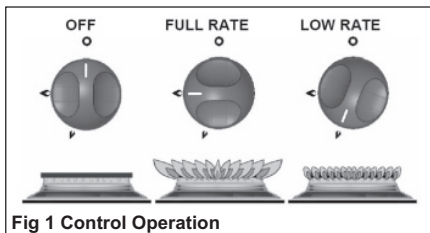

Fig 1 Control Operation
2. Push in the control knob and turn anti-clockwise to full rate - large flame (see Fig 1).
6. If burner has not lit within 15 seconds, release knob and wait at least 1 minute before repeating operations (2) to (5).